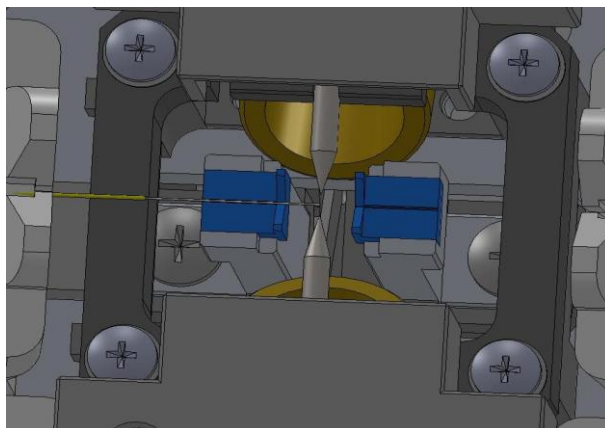

Fig.25 Schematic diagram of electrode position adjustment
- a) Place a well-cut bare fiber into the V-groove to make the cut cross-section between the both V-grooves if possible, and then gently press the fiber with a toothpick to make it completely drop into the groove as shown in Fig.25 . At this time, observe whether the fiber cross-section is positioned at the middle of electrode tips at both sides, and if not, loosen the screws of electrode holder, and re-adjust the position of electrode holder to make the distance from the electrode tips to fiber cross-section equal with that from the electrode tips to the V-grooves. Then press [ARC] button to observe the position of fiber end and try to ensure it at the middle of arc.